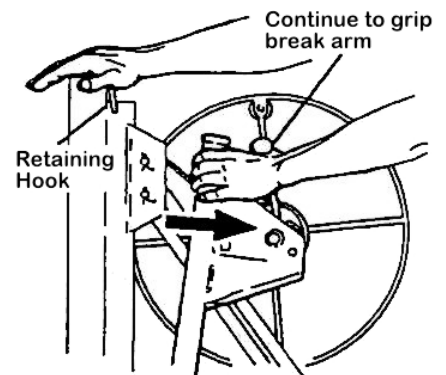

Figure 4
- c. Place your right hand on top of the frame. Continue to grip the brake arm as needed to prevent cable backlash, and pull the winch assembly all the way toward you. (Figure 4)